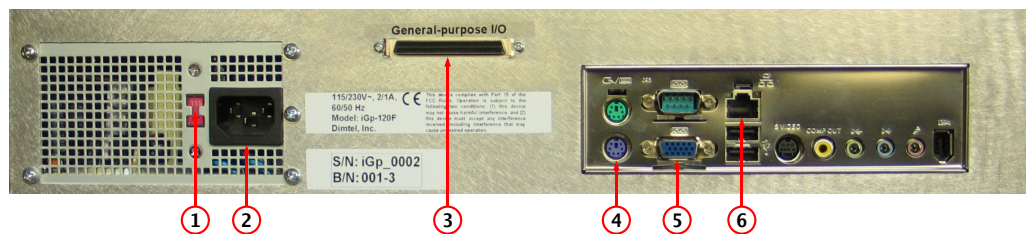

Figure 3: Rear panel features
**WARNING: Before connecting power to the unit make sure the voltage selection switch (Fig. 3, item 1) is in the correct position (115 or 230 V).**
1. Configure voltage selection switch (Fig. 3, item 1). Mains supply requirements for the iGp-328F are listed in Table 8;
7. Connect a PS/2 keyboard (Fig. 3, item 4);
8. Connect a video monitor (Fig. 3, item 5);
Setup program is included in the IOC for configuring the important features of the iGp-328F. The program can be executed locally or remotely. For local execution one must first connect a keyboard (Fig. 3, item 4) and a video monitor (Fig. 3, item 5) to the system. For remote setup, use `ssh` after system bootup to establish connection. In both setup methods the user must login as `root` (initial password is supplied with the system). If the newly received iGp-328F must be configured remotely (when, for example, a keyboard or a monitor is not available), such configuration can be performed using a dedicated network. Set up a network consisting of the iGp-328F, a network hub or a switch, and a remote computer. The iGp-328F is delivered with the following network configuration:
- Make sure no cable is connected to the general-purpose digital I/O port (Fig. 3, item 3);